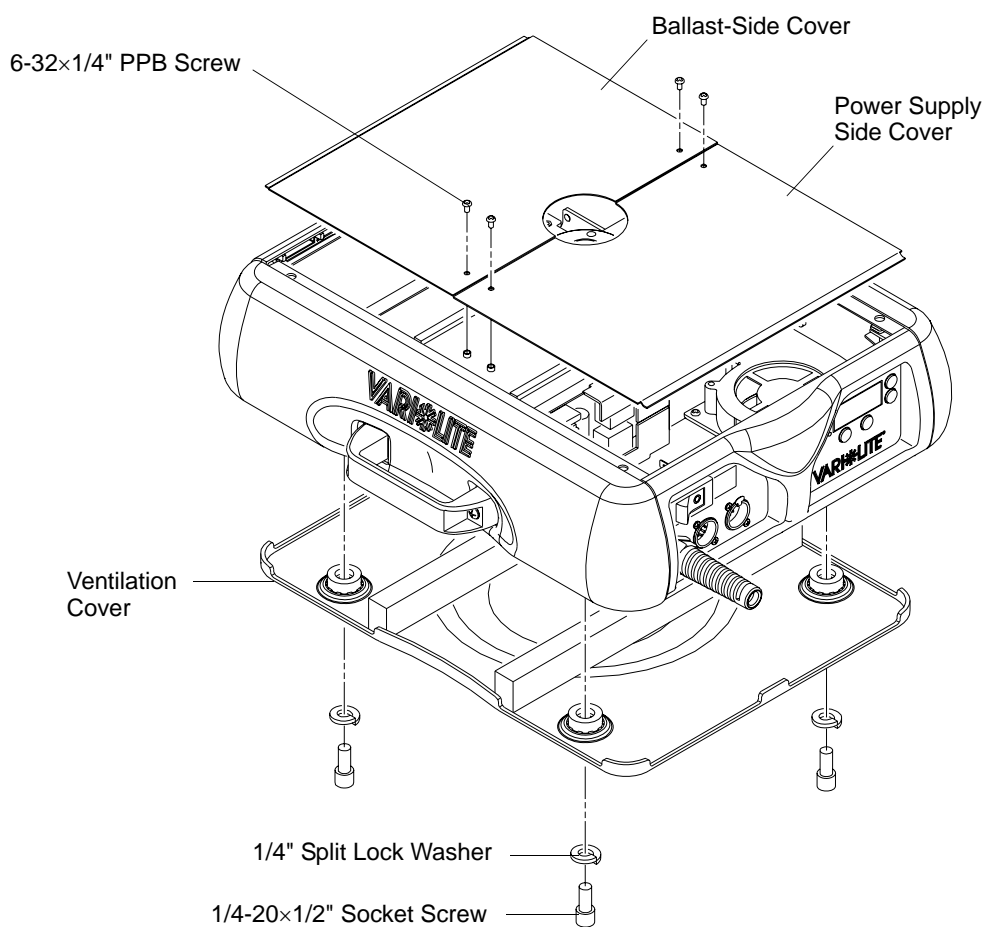

Figure 2-16: Removing Top and Bottom Enclosure Covers
- Step 3. At each top enclosure cover, remove two 6-32×1/4" PPB screws and remove cover as shown in Figure 2-16.